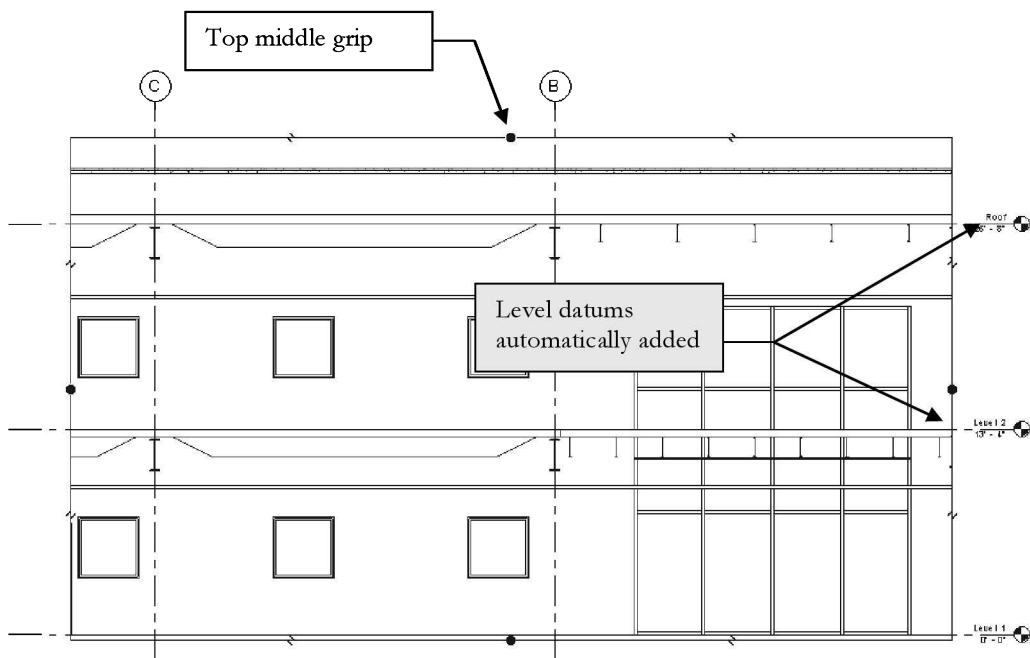

FIGURE 10-2.4 Lobby and Entry - East elevation; crop region selected and modified
10. Select the *Crop Region* and drag the upper middle grip upwards to increase the view size vertically (Figure 10-2.4).